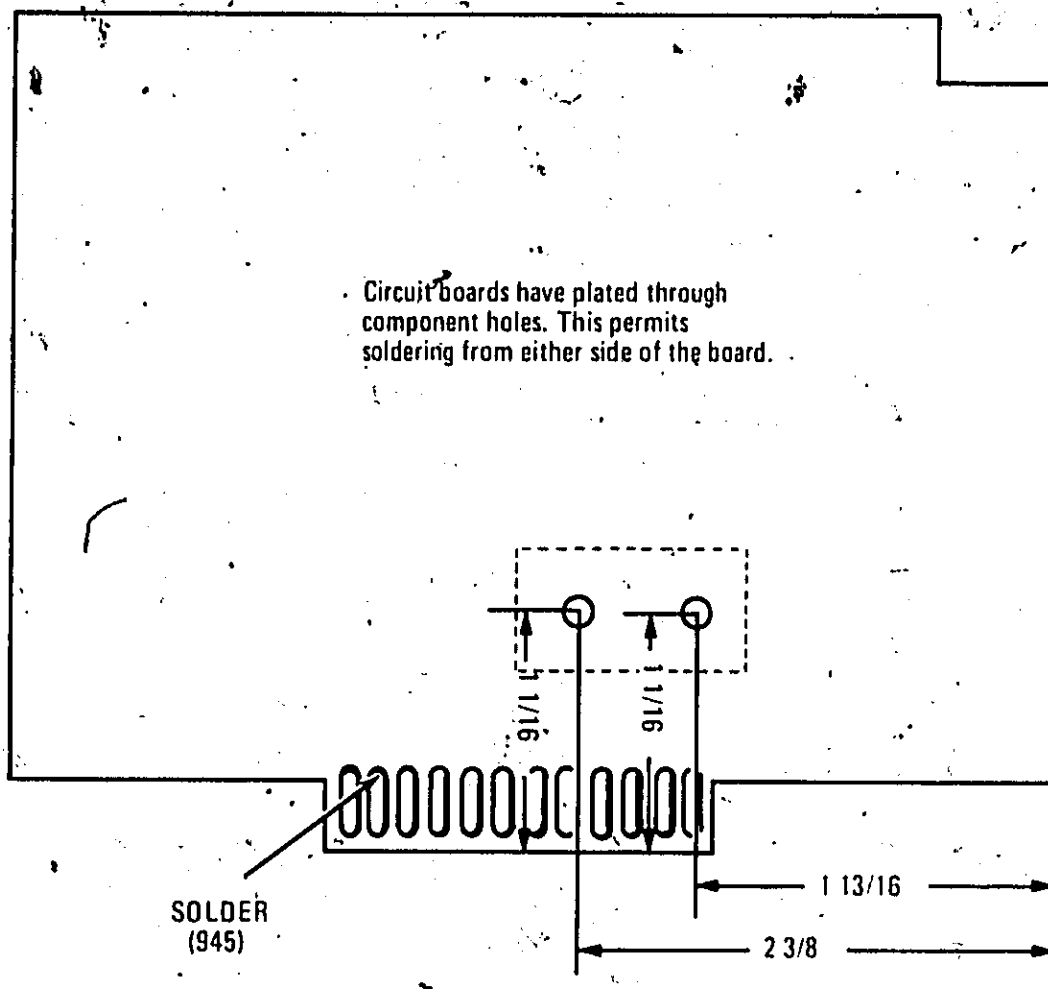

Figure 1.
2. Mark, punch and drill two 1/8 inch diameter holes as shown in Figure 1.
4. Solder 2-1/2 inch Wht/Yel/Grn wire between point marked (945) on BD ASSY - GATE MOD and point on board A6 as shown on Figure 1.
5. Attach 10-1/2 inch Wht/Yel/Blu wire to point marked (946) on BD ASSY - GATE MOD.
6. Attach 11-1/2 inch Wht/Brn/Orn wire to point marked (913) on BD ASSY - GATE MOD.